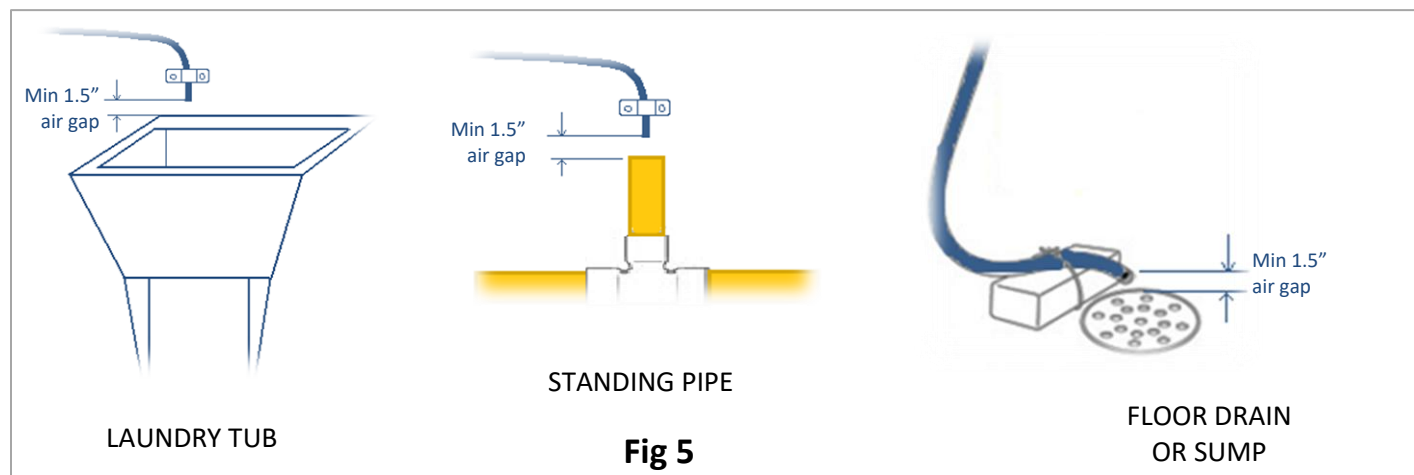

Fig 5
- Run the drain line to a nearby laundry tub, standing pipe or floor drain (fig 5) and cut off excess tubing.
NOTE ABOUT DRAIN LINE : You can run the drain hose from the unit to the ceiling joists (max 8 ft ceiling) and run it to the nearest laundry tub or drain pipe. This can be run up overhead or down along the floor. Use band clamps to hold the drain tubing in place. If running drain line more than 15 feet from the softener (max 25 ft), increasing the line size to ¾" will be required. Please follow your local plumbing & other applicable codes for where to run softener discharge water. **NEVER MAKE A DIRECT CONNECTION INTO A WASTE WATER DRAIN. A PHYSICAL AIR GAP OF AT LEAST 1.5" SHOULD BE USED TO AVOID BACTERIA AND WASTEWATER TRAVELING BACK THROUGH THE DRAIN LINE INTO THE SOFTENER** (see fig 5)
- Attach the rest of the drain tubing to the overflow fitting and run to the floor drain with an appropriate air gap, as shown in fig 5. If you do not have any more drain tubing left, you will need to purchase extra tubing at your local plumbing retailer. A hose clamp is also recommended to hold the tubing on the fitting.